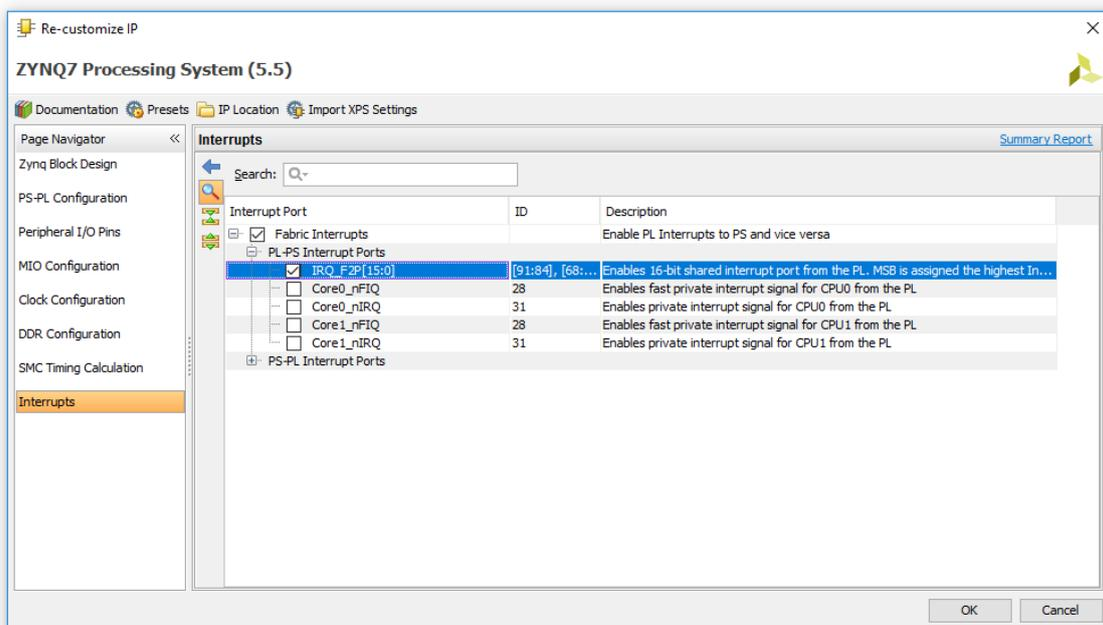

Figure 8: Interrupts Configuration
- Select **Interrupts** (Figure 8), and enable IRQ\_F2P under PL-PS Interrupt Ports.